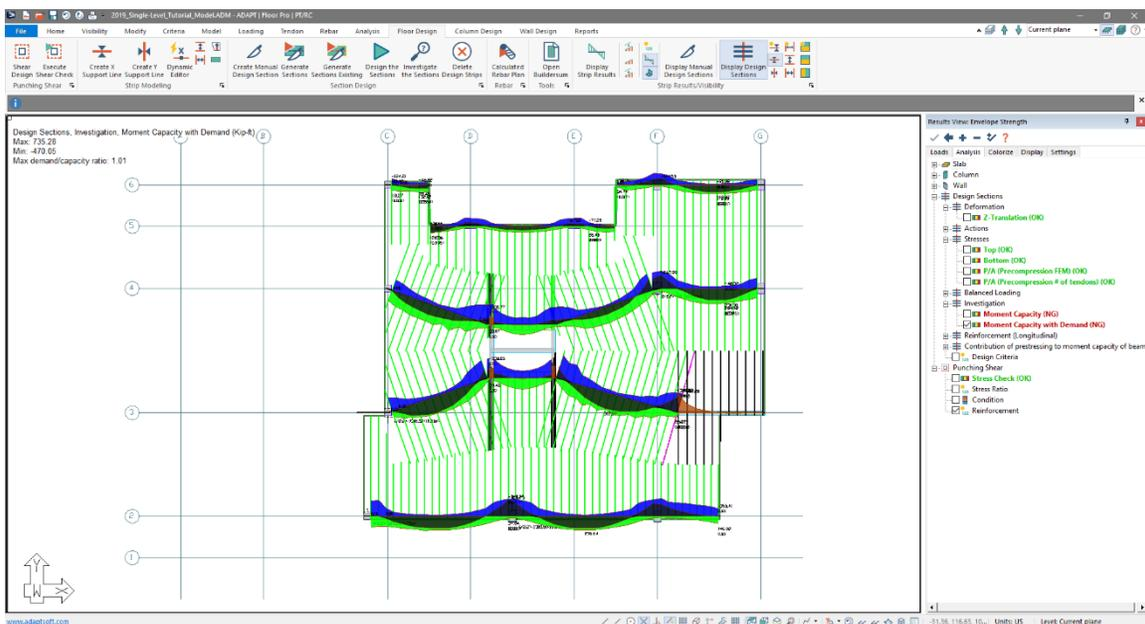

Figure 8-79
- In the *Results Browser's Analysis* tab check the box next to *Design Sections* → *Investigation* → *Moment Capacity with Demand* by clicking on it. The user should now see the moment capacity with demand curve along the support line as shown in **FIGURE 8-79**.